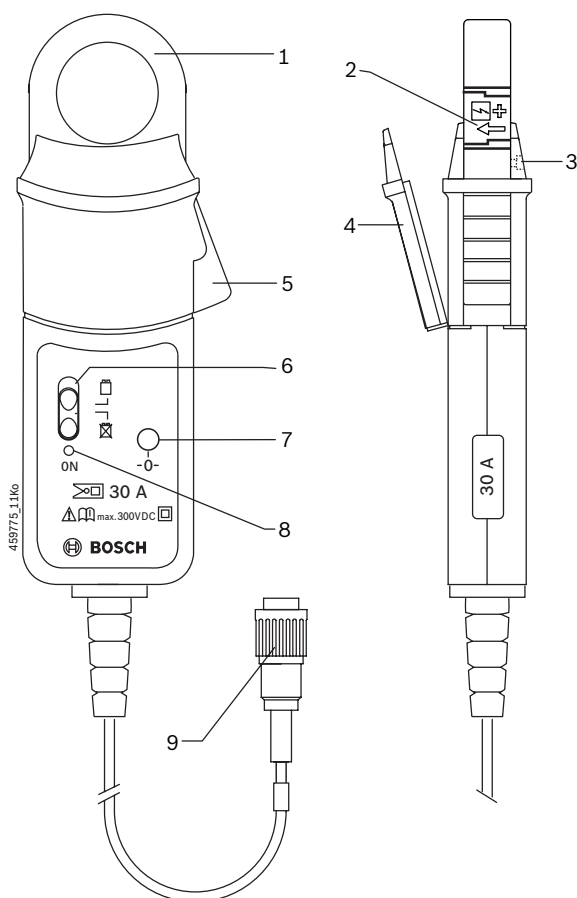

Fig. 1: Current probe 30 A
The current probe is supplied with power by way of the Bosch tester and therefore does not require a battery. The battery switch of the current probe (fig. 1, item 6) has no function in this case.
The current probe is connected directly to the test system using the connector (fig. 1, item 9).